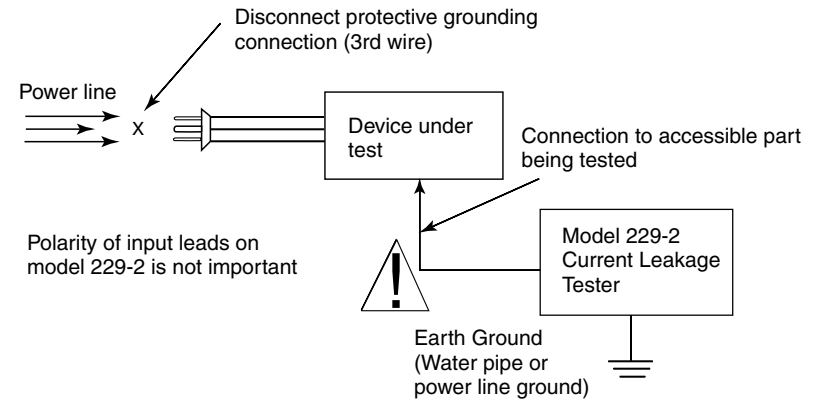

Figure 2-1. Model 229-2, Leakage Current Testing Diagram
5. Connect Model 229-2 Leakage Current Tester, as shown in the figure 2-1.